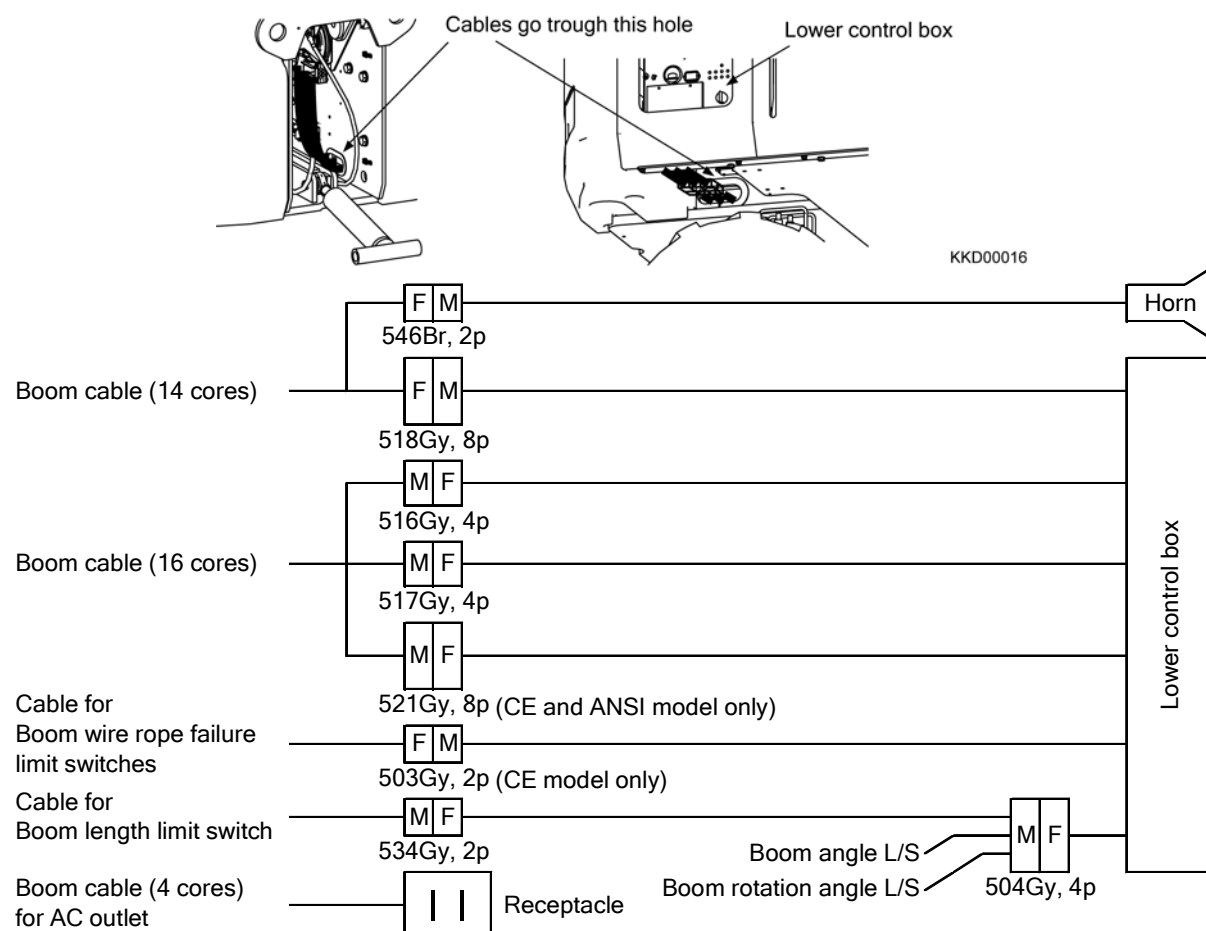

Fig. 2-45
- 20) Disconnect the cables listed below. Connectors are located behind the lower control box. (Fig. 2-45)
15) Connect the cables listed below. (Page. 2-20, Fig. 2-45)